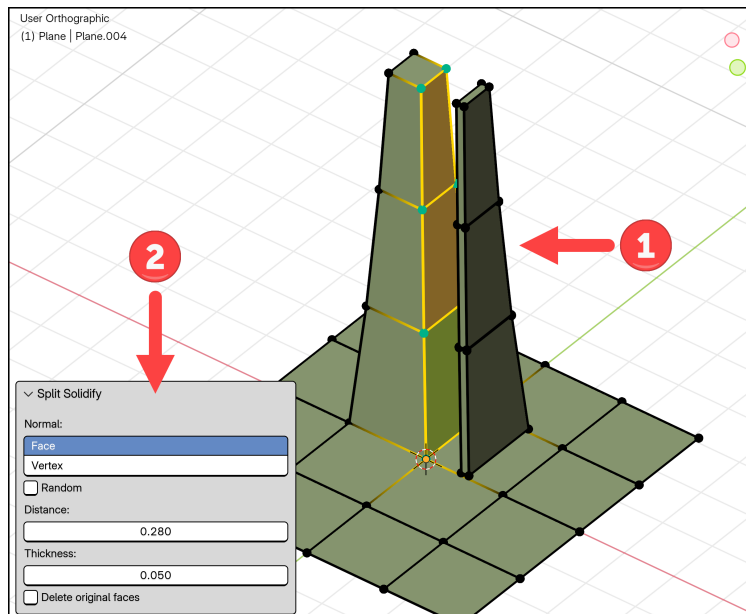

Figure 5.17 - Resulting faces from the Split Solidify
The original stepped model remains intact with the selected faces duplicated, with a new object appearing as a separate entity with the specified depth added by the automatic *Solidify* modifier application (1)(Figure 5.17).